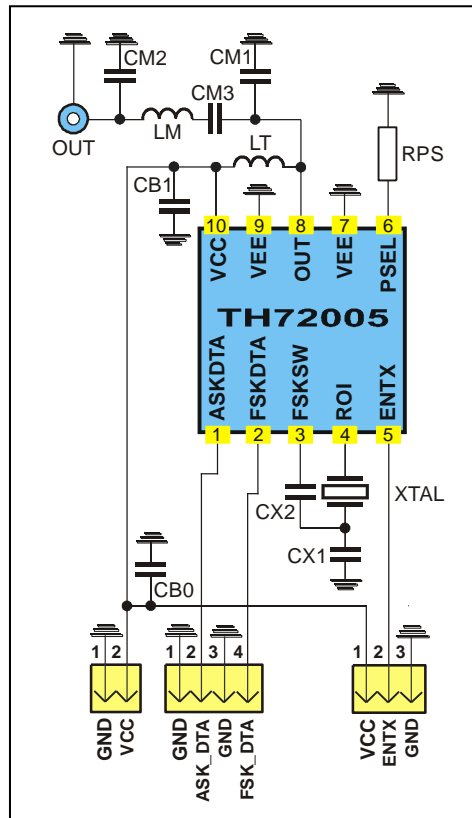

Fig. 18: Test circuit for FSK and ASK with 50 Ω matching network
typical values at  $T_A = 23\text{ }^\circ\text{C}$  and  $V_{CC} = 3\text{ V}$ ; test circuit shown in Fig. 18,  $f_c = 315\text{ MHz}$
- Data according to test circuit in Fig. 18
### 6.1. Test circuit component list to Fig. 18